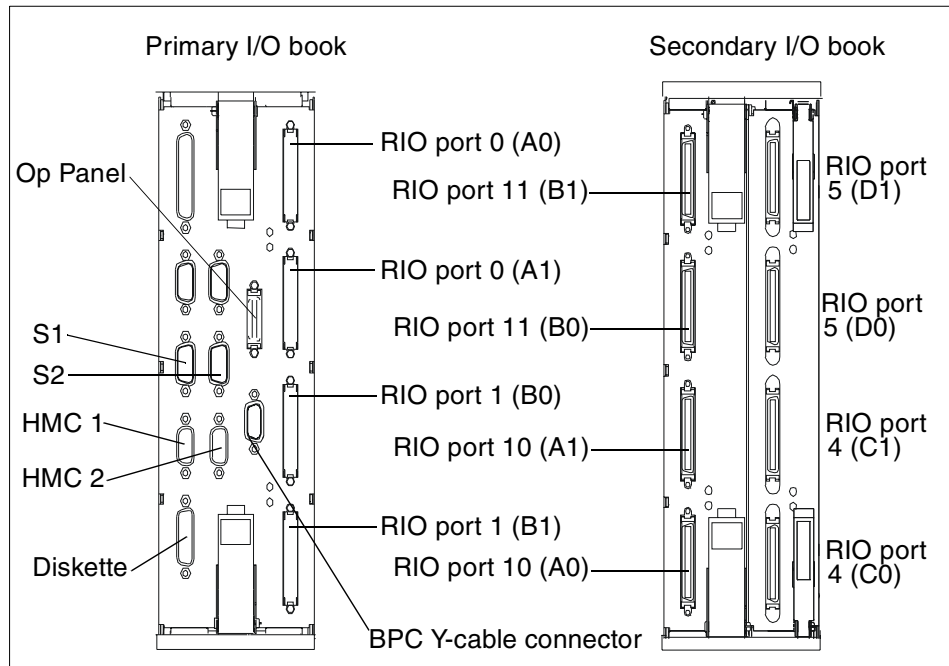

Figure 2-15 Primary and secondary I/O books
There are two types of I/O books available, called primary I/O book and secondary I/O book and shown in Figure 2-15 on page 48. The primary I/O book is mandatory in all pSeries 670 and pSeries 690 and there must be exactly one per system. The secondary I/O books are optional. Their number depends on the requirements for external IO drawer attachments. A pSeries 670 can contain at most one secondary I/O book, while a pSeries 690 can contain up to three secondary I/O books.
- Plugs into the GX slots of the CEC backplane in the order: GX slot 2, GX slot 3 and GX slot 1. In Figure 2-15 on page 48, the RIO Port numbers correspond to the first secondary I/O book. For the second and third